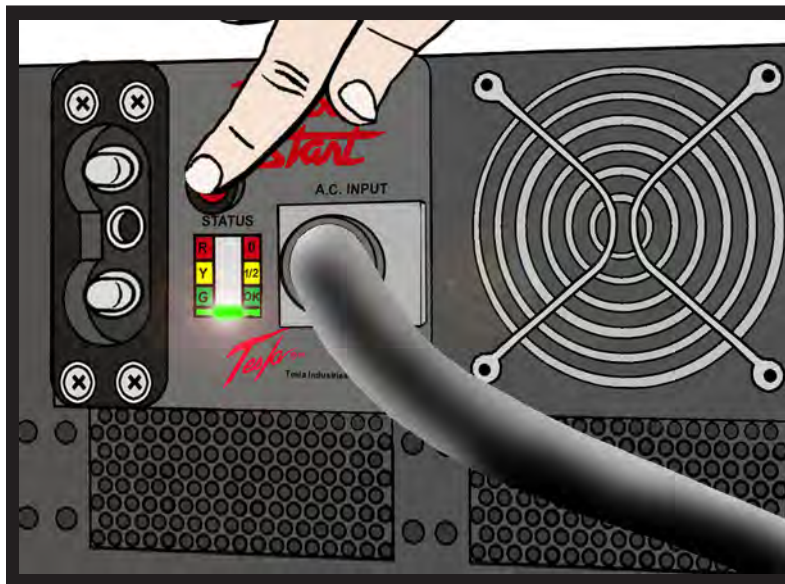

Figure 4-19: Pressing “Push to Test” Button
2) Without AC power input or DC power output, simply depress the “Push to Test” button on the face plate and hold for approximately 2 to 3 seconds. (See figure: 4-19) Never depress the “Push to Test” button for more than 5 seconds. This may cause a temperature sensor to temporarily disrupt the “Push to Test” function. (If this sensor is tripped, allow ten minutes for unit to cool before operating “Push to Test” button.)